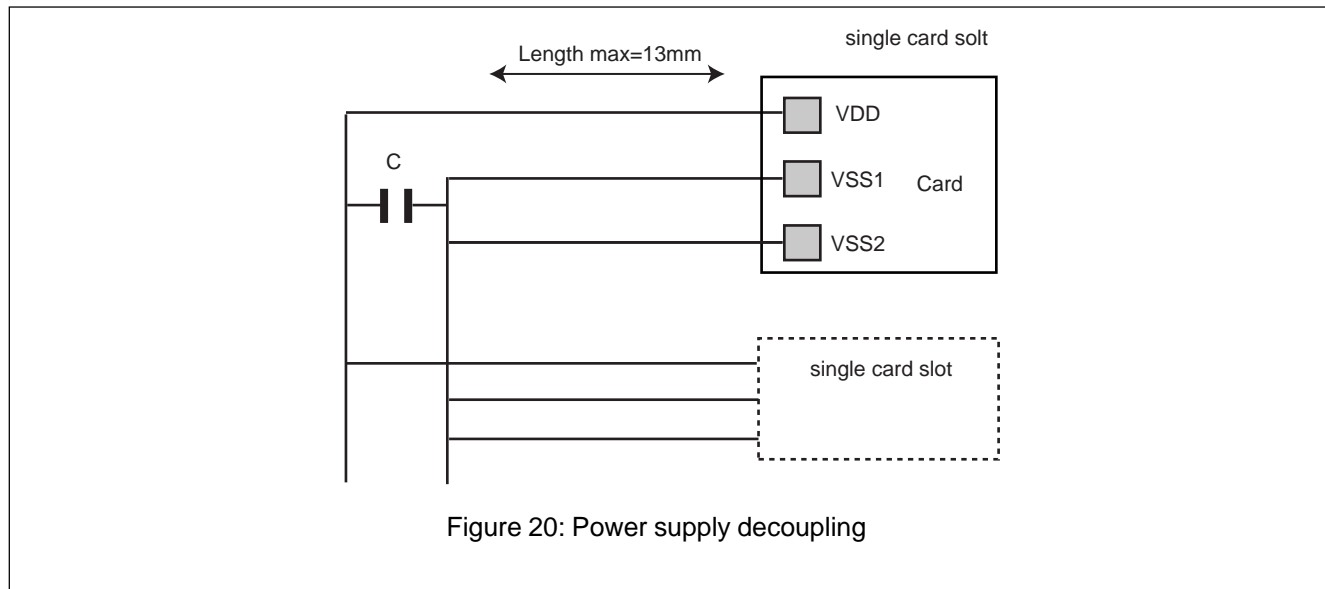

Figure 20: Power supply decoupling
The VSS1, VSS2 and VDD lines supply the card with operating voltage. A decoupling capacitor (C) for current peak buffering has to be foreseen. This capacitor is placed on the bus side corresponding to Figure 20.